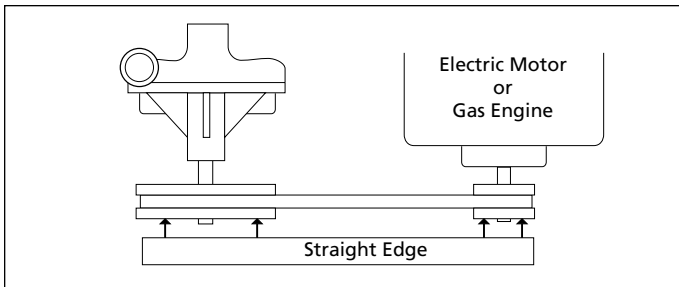
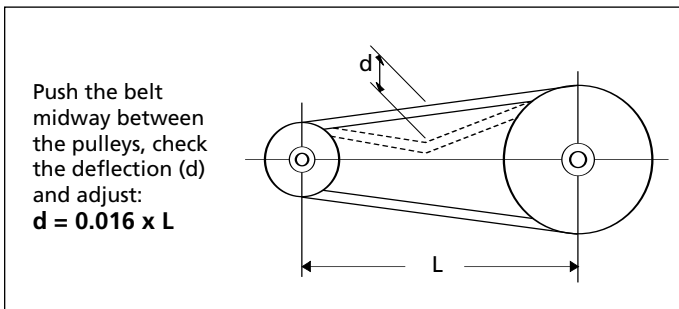

Figure 1 – Belt/Pulley Drive Installation
Figure 2 – Belt Tension
2. Mount pulleys as close to the pump and motor engine shaft bearings as possible. Check the alignment with a straight edge as shown in Figure 1. Make sure that the belt has proper tension. (Too much tension will cause bearing wear; too little will cause slippage). See Figure 2. Check with belt and pulley sources for specific recommendation. A safety shield (belt guard) must be installed over the motor/pump pulleys and belts.